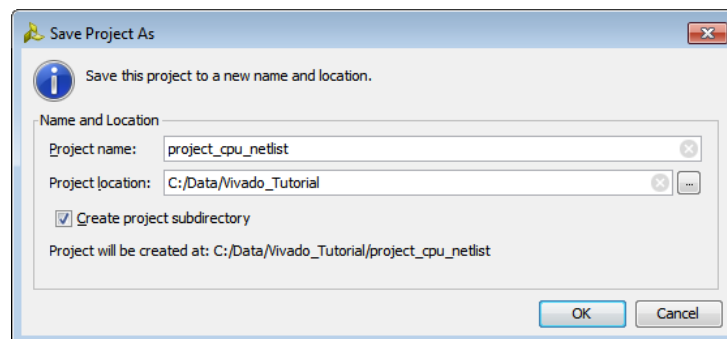

Figure 2: Save Project As
- Click **Save Project As** to specify a project name and location, as shown in Figure 2.